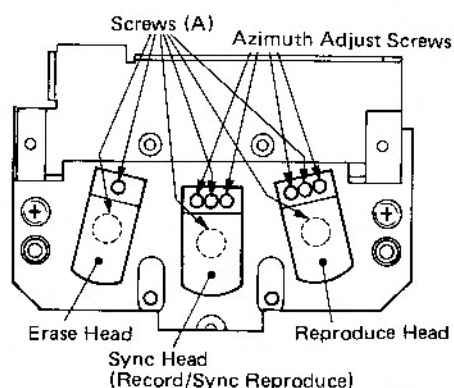

Fig. 2-13. Head Contact and Azimuth Adjust Screws
2. While observing the VU meter, temporarily increase back tension to the left reel by lightly applying pressure by hand. If sufficient contact pressure is applied to the head while the tape is running, no change will be noticed on the meter when back tension is increased. However, if insufficient pressure is applied to the head, the deflection needle will show increased deflection due to contact pressure caused by the back tension. This method will help determine whether head contact is properly adjusted or not. To adjust, loosen the retaining screws (A) for that particular head (Shown in Fig. 2-13) and change the direction of the head for proper alignment.